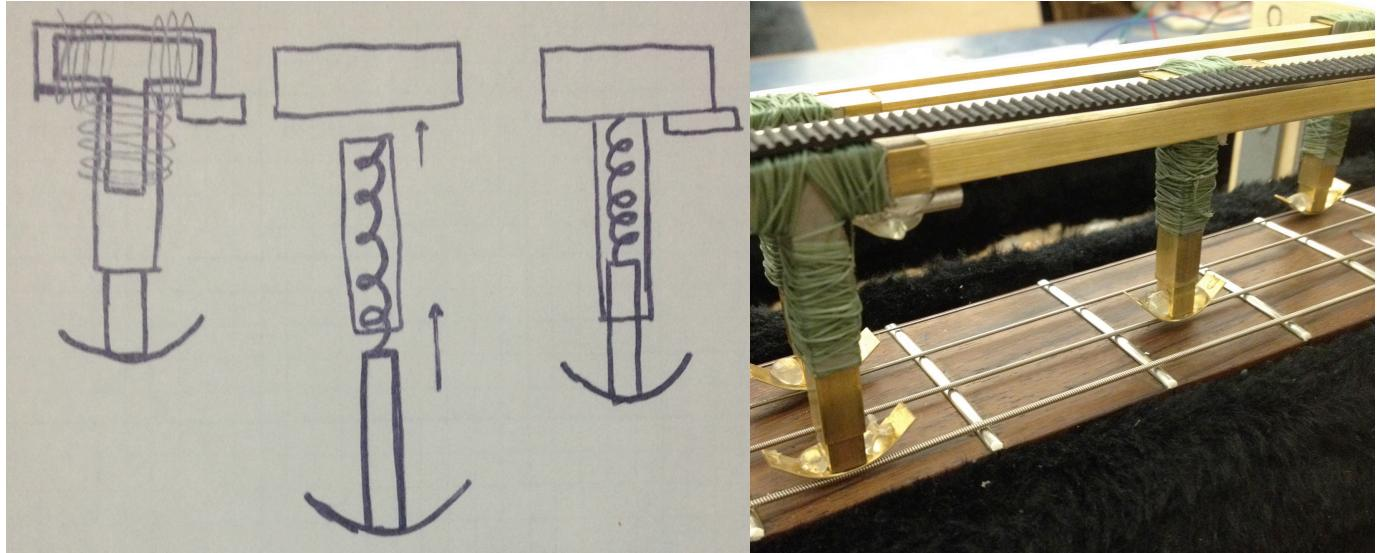

Figure 4, Figure 5
20. Cut 4, 1 cm long 1/8" diameter rods and secure them to bottom of large moveable collar as shown in Figures 4 and 5.